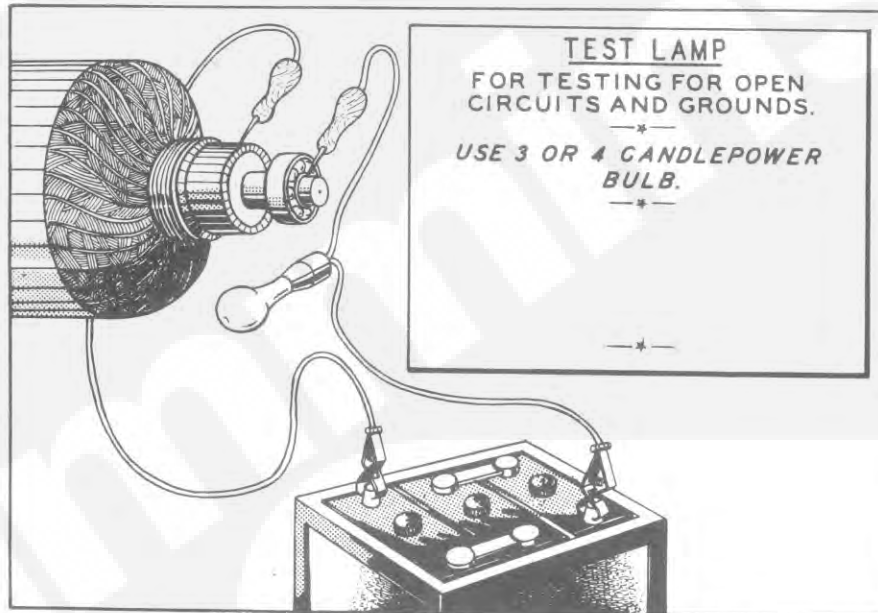

FIG.45- CONTINUITY TEST LAMP
**TESTING FIELD WINDINGS.** - Use a test lamp set (Fig 45 ) for all tests except a short circuit. The field coils of all ac plants are saturated shunt wound, the Remote Start and Dual Purpose plants having a series field winding in addition for cranking and battery charging purposes. The field coils of the Battery Charging plants are of the shunt wound type with interpoles and a series field. There are actually three separate windings to test. The 115 volt and 230 volt dc plants are of the compound wound type with interpoles and all windings are connected. When testing a field coil assembly, disconnect all of its external leads from their terminals. Tag and mark each lead to assure proper connections when reassembling.